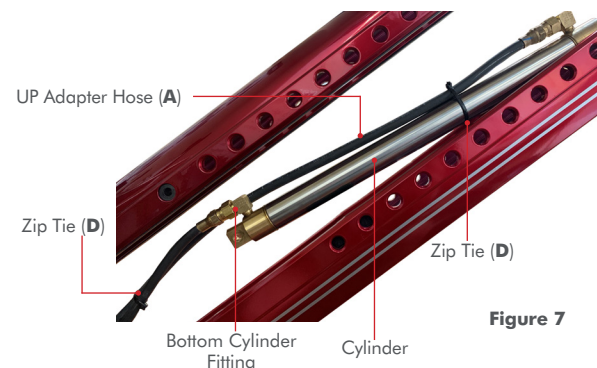

Figure 7
STEP 8: Zip-Tie **UP Adapter Hose (A)** 2/3 of the way up the **Cylinder**. **UP Adapter Hose (A)** will run beside the **Bottom Cylinder Fitting** and lay on top of the **Cylinder**. **FIG 7**
STEP 9: Zip-Tie the **UP & DOWN Hoses (A & B)** together halfway between the **Bottom Cylinder Fitting** and the point at which the hoses enter the Power-Pole. **FIG 7**